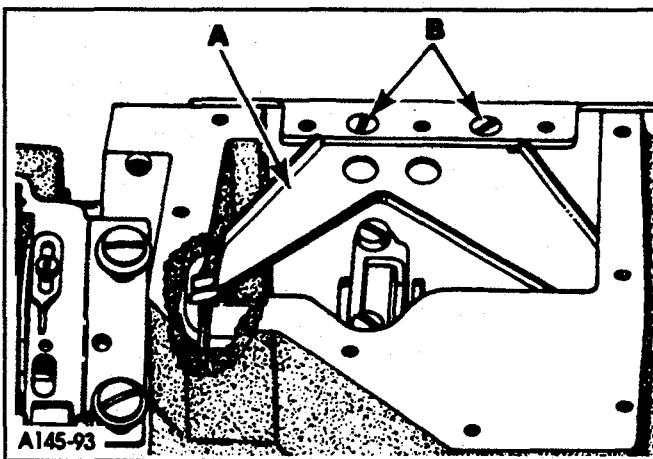

FIG. 32
The oil drip plate (A, Fig. 32) located in the oil reservoir should be positioned with its tip in the recessed cut out in the bed casting, as far to the left as possible without touching. It has elongated mounting holes and can be adjusted by loosening screws (B) in top of the oil reservoir back cover to position as required, retighten screws.